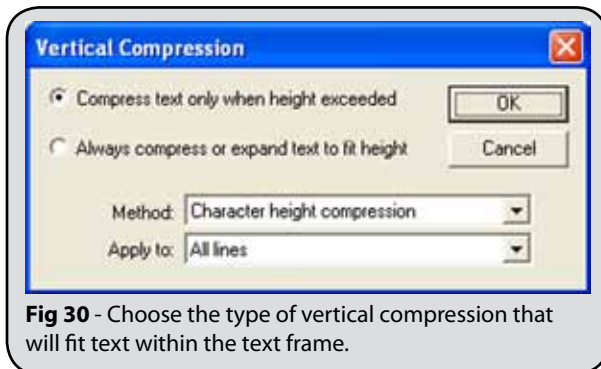

Fig 30 - Choose the type of vertical compression that will fit text within the text frame.
16. The **Vertical Compression** dialog will open. (Fig. 30)